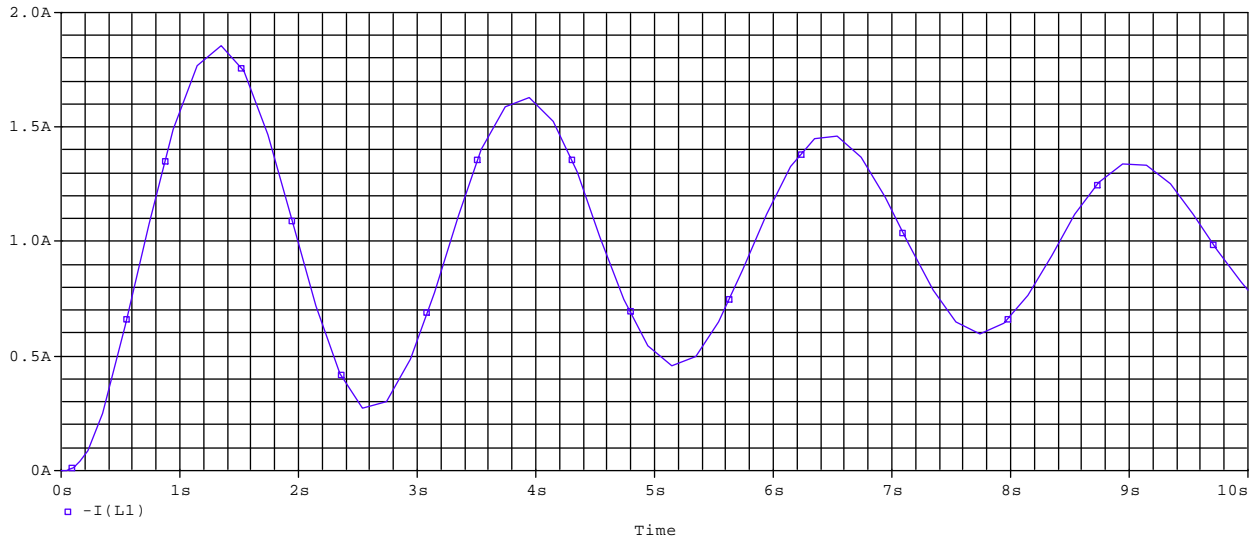

Fig. 8. Inductor current in underdamped conditions ( $R = 10 \Omega$ ).
R. We can now easily examine the behaviour of the circuit under overdamped ( $Q < \frac{1}{2}$ ), critically damped ( $Q = \frac{1}{2}$ ) and underdamped ( $Q > \frac{1}{2}$ ) conditions. We could simply set the resistance to a required value and run the time domain simulation to obtain a single plot of  $i_L(t)$ . For example, Fig. 8 shows the inductor current when  $R = 10 \Omega$ .